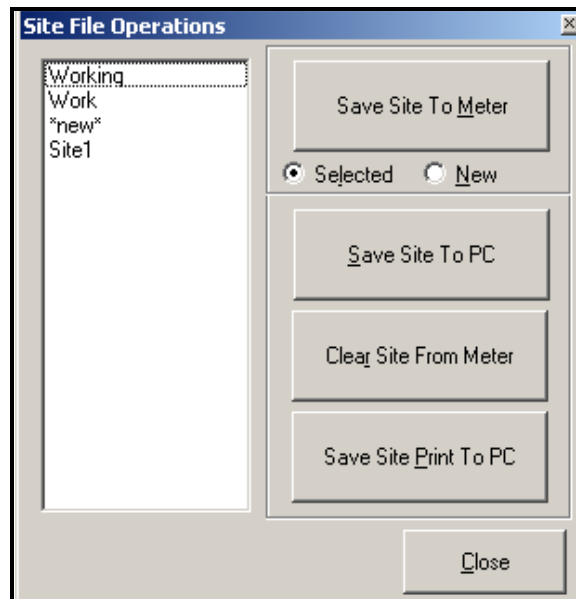

Figure 31: Site File Operations Window
To access site files, click on the *Site Files* button in the *Properties* window. The *Site File Operations* window (shown in Figure 31 below) opens.
1. Highlight the desired site in the left pane. (See Figure 31 on page 108.)
1. Highlight the site in the left pane. (See Figure 31 on page 108.)